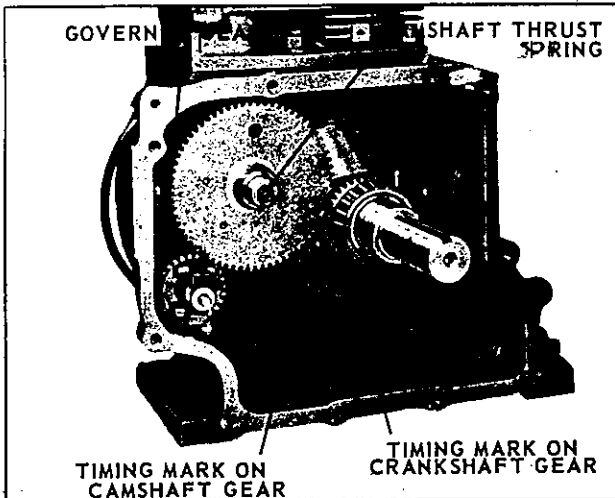

Fig. 40 293041C
**Caution:** Be sure timing marks on crankshaft and camshaft gear, Fig. 40, remain correctly mated when end of camshaft is pressed into bearing hole of gear cover.
*In reassembly:* Tappets must be inserted in crankcase before camshaft is assembled. Mount camshaft so that *timing mark* on cam gear matches up with *marked gear tooth* on crankshaft gear. See Fig. 40. If valve timing is off, engine will not function properly or may not run at all. Be sure thrust spring is in place in end of camshaft.